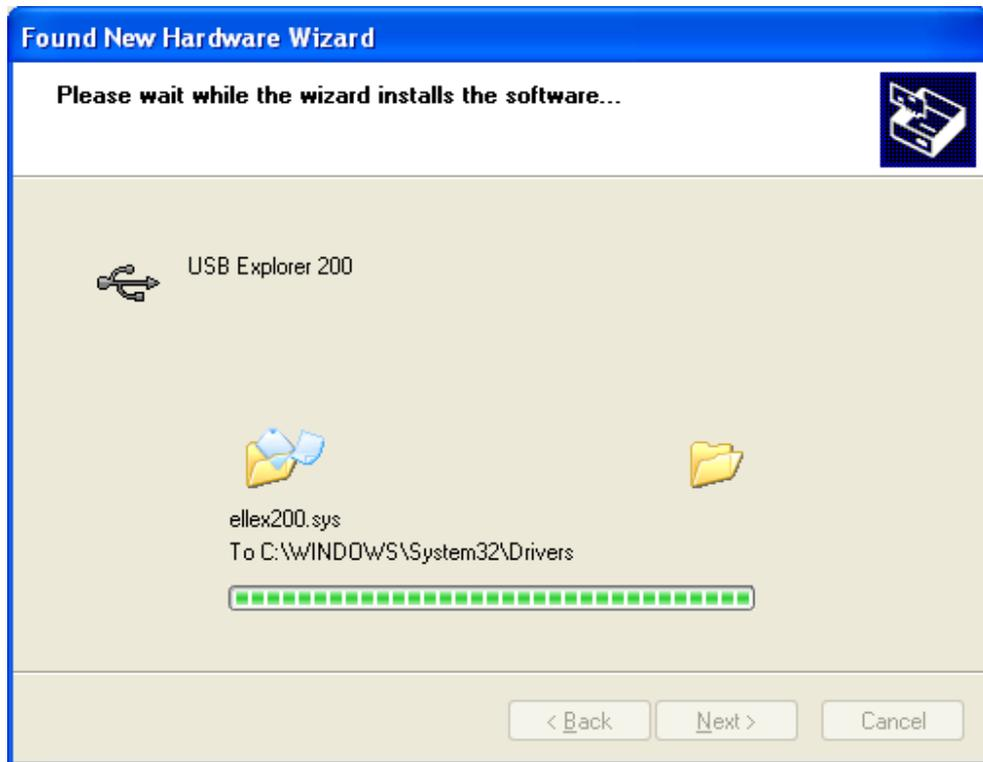

Figure 27 - Driver installation
- Windows will find the driver and install it (see Figure 27).